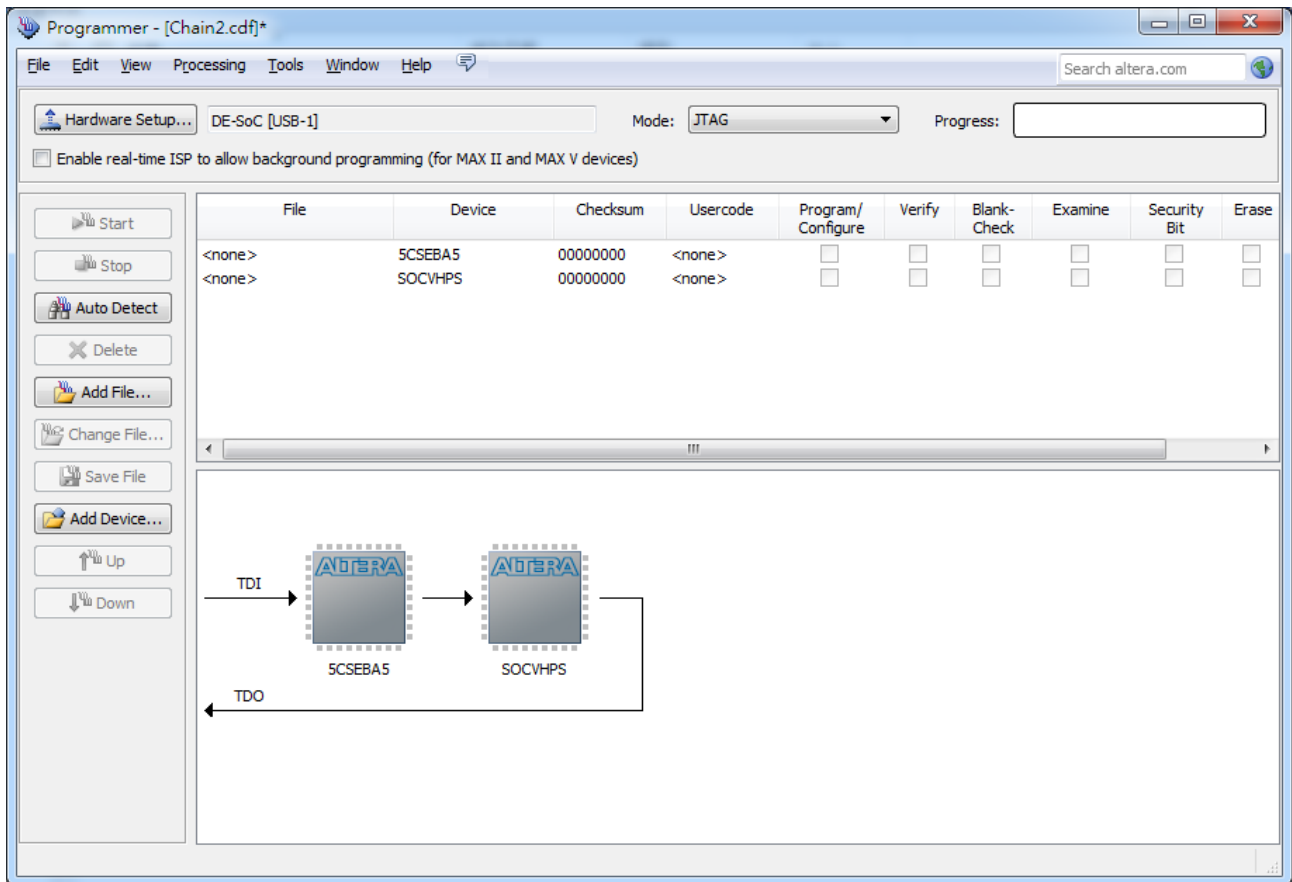

Figure 3-4 FPGA JTAG Programming Steps 3
- Both FPGA and HPS will be detected as **Figure 3-4**